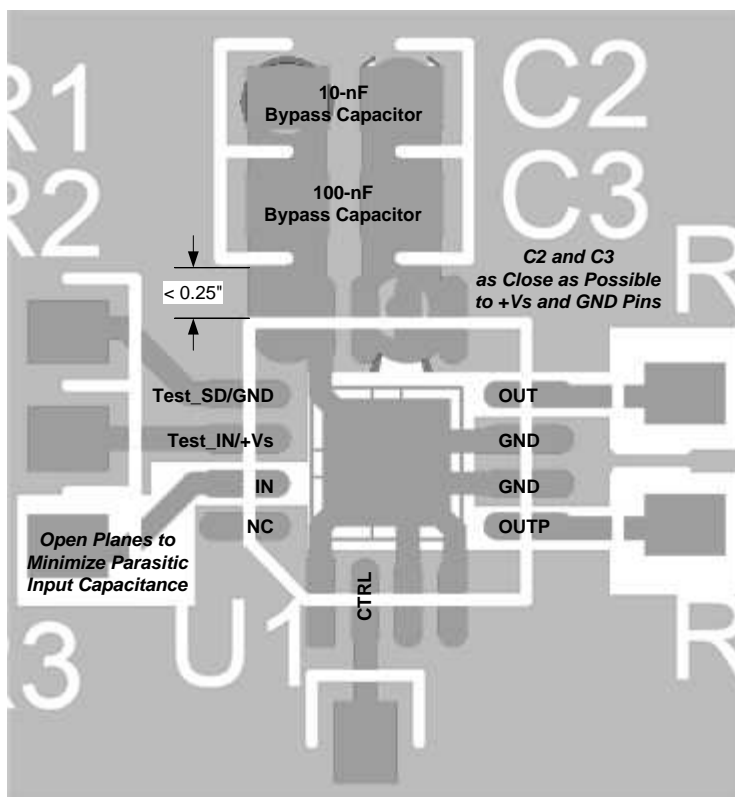

Figure 46. Layout Example
- b. **Minimize the distance** ($< 0.25"$) from the power-supply pins to high-frequency $0.1\text{-}\mu\text{F}$ decoupling capacitors, as shown in Figure 46. At the device pins, make sure that the ground and power-plane layout are not in close proximity to the signal I/O pins. Avoid narrow power and ground traces to minimize inductance between the pins and decoupling capacitors. Always decouple the power-supply connections with these capacitors. An optional supply decoupling capacitor ($0.1\text{ }\mu\text{F}$) across the two power supplies (for bipolar operation) improves second-harmonic distortion performance. Use larger ($2.2\text{ }\mu\text{F}$ to $6.8\text{ }\mu\text{F}$) decoupling capacitors, effective at lower frequencies, on the main supply pins. These capacitors can be placed somewhat farther from the device and can be shared among several devices in the same area of the PC board.